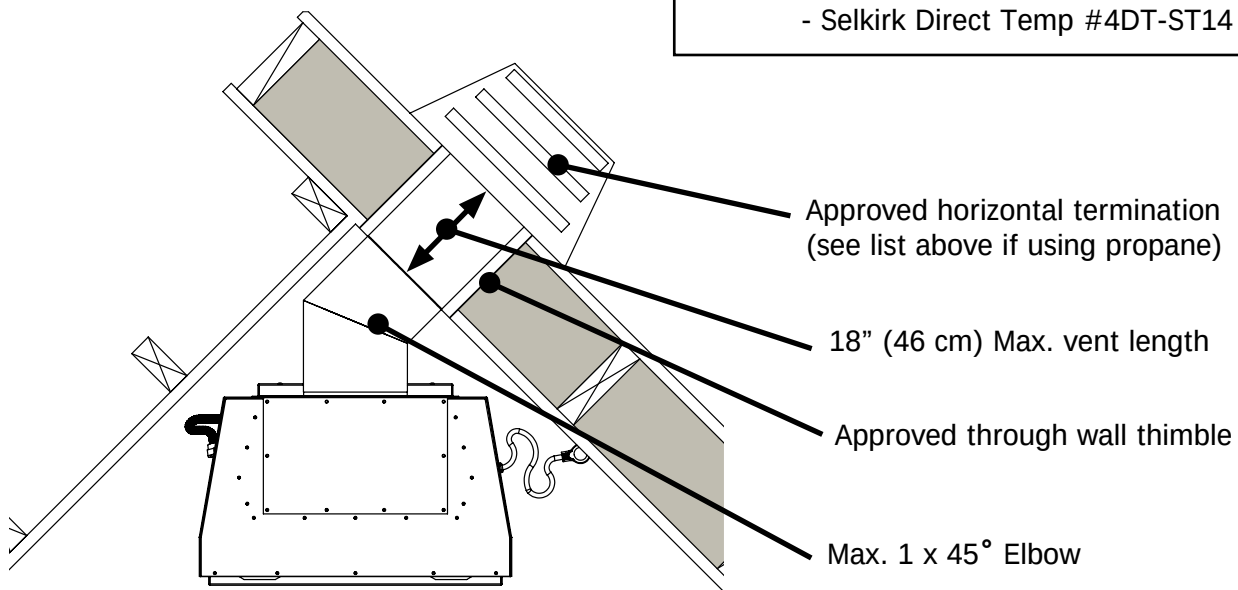

Figure 38. Corner Rear Vent - No Vertical Rise
The Q1CI can be installed in rear vent applications with no vertical rise* within the parameters as shown in Figures 38 and 39.
Step 1: Using a T20 screwdriver remove the vent collar, base plate, cover plate and 4" exhaust spigot (28 screws total) as shown in Figure 38. The vent collar, base plate, and 4" exhaust spigot will no longer be used.